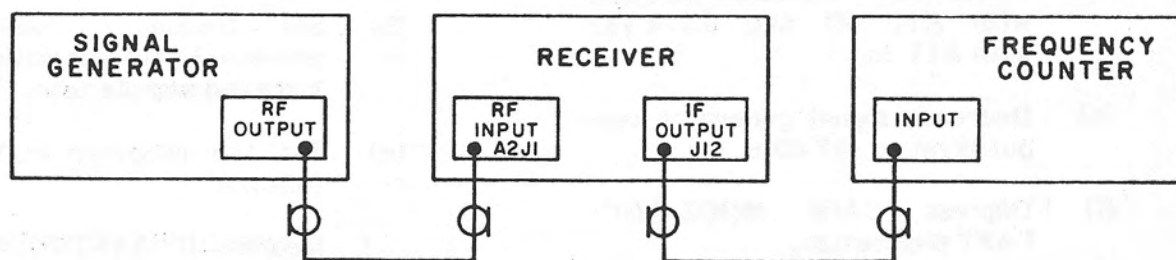

Figure 4-4. Frequency Tuning Performance, Test Setup
(1) A signal generator and a frequency counter are needed for this test.
(2) The test equipment is set up and connected as shown in figure 4-4.
(3) Frequency tuning test procedures. The test comprises the following steps: